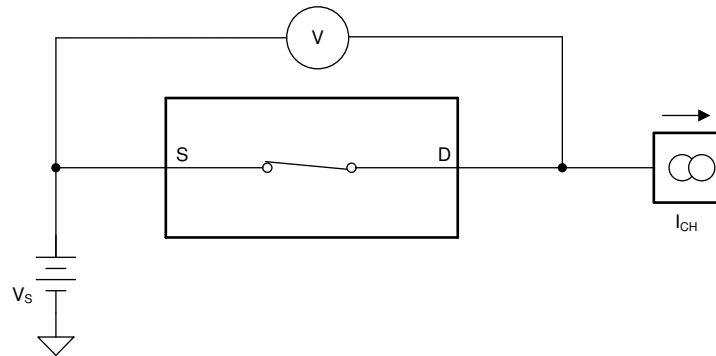

图 17. On-Resistance Measurement Setup
The on-resistance of the TMUX6111, TMUX6112, and TMUX6113 is the ohmic resistance across the source (Sx) and drain (Dx) pins of the device. The on-resistance varies with input voltage and supply voltage. The symbol R_{ON} is used to denote on-resistance. The measurement setup used to measure R_{ON} is shown in 图 17. Voltage (V) and current (I_{CH}) are measured using this setup, and R_{ON} is computed as shown in 公式 1: